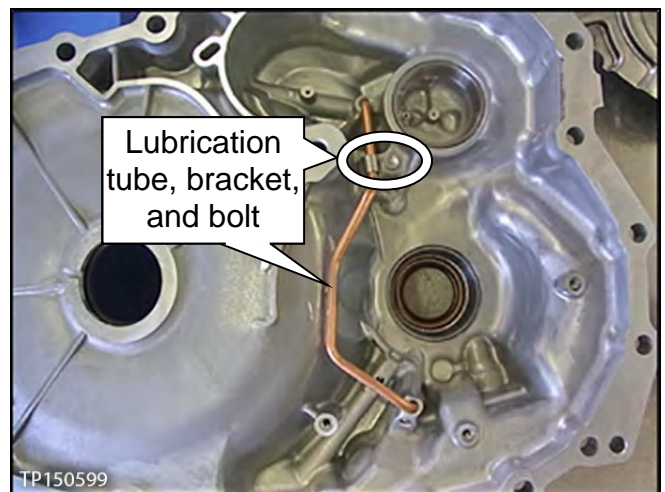

Figure 48
5. Remove the bolt, and then remove the lubrication tube and its bracket (see Figure 48).